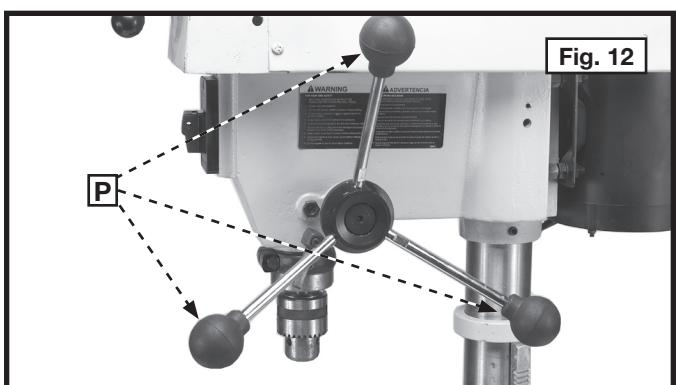

Fig. 12
10. Thread the three handles (P) Fig. 12 in the three tapped holes located in the pinion shaft.